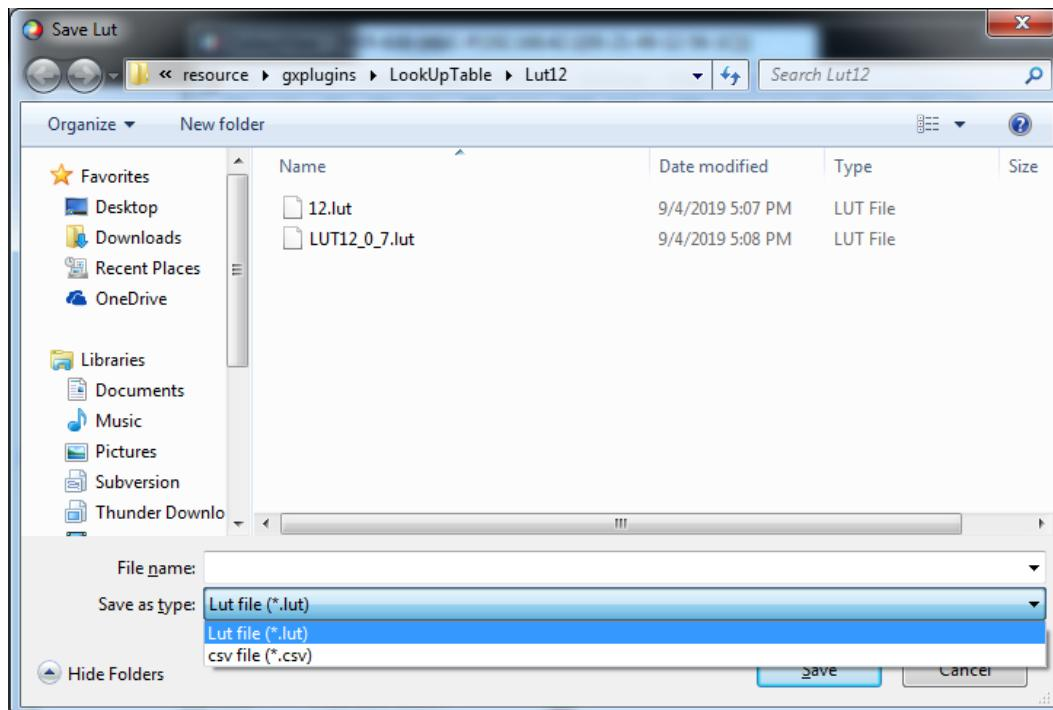

Figure 9-6 Save to file
- When selecting "Save To File", the current Lut data can be saved to the file. The saved file contains two formats: Lut and csv, as shown in Figure 9-6: